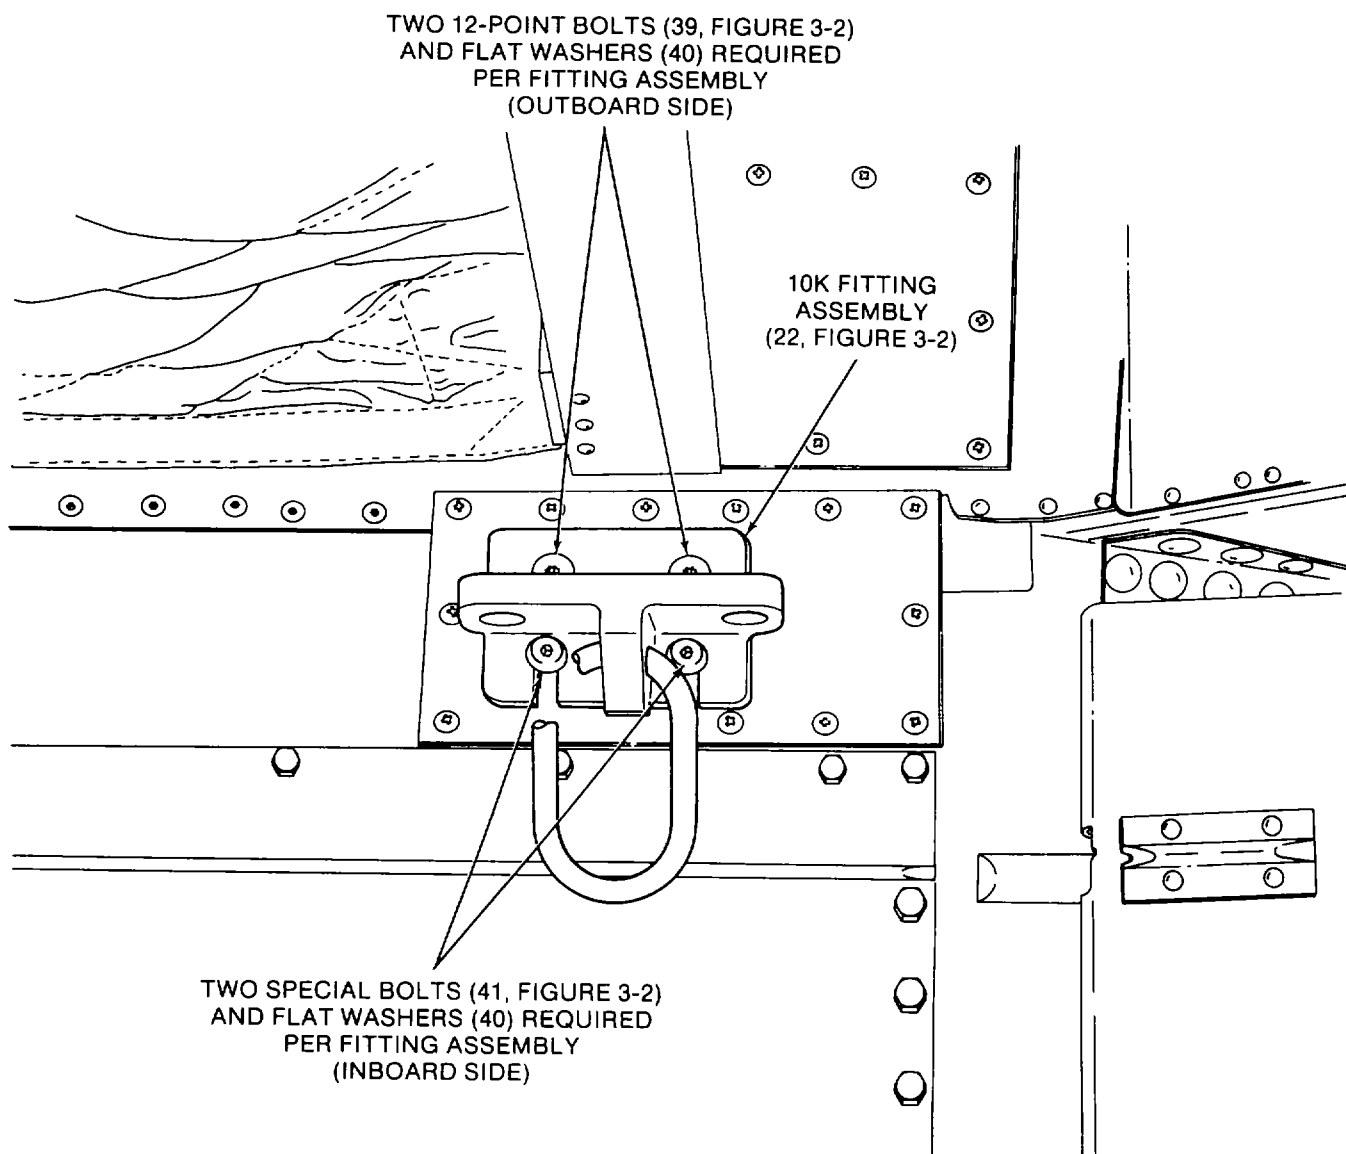

Figure 2-4. 10k Fitting Assembly Installed
- (1) A new cargo handling system has just been installed.
- (2) A cargo system has been removed from storage and installed.
- (3) A system has been idle in an out-of-service aircraft.
- (4) Maintenance has recently been performed and the system has not been inspected.
(5) A system appears to function improperly.
b. *Inspection Criteria.* A general inspection should be accomplished for any one of the reasons indicated in paragraph 2-4a. Inspect regularly to maintain the Helicopter Internal Cargo Handling System in good working condition. Make certain that all components shown in the table are accounted for in either the installed or stowed locations as applicable. (Refer to Table 2-1.) Then inspect the system against Figures 2-4 through 2-21 to make certain that all system components are properly installed. Check outboard rail/roller assemblies (1 through 6, Figure 3-2), inboard guide/roller assemblies (9 through 12), inboard ramp/roller assemblies (13 and 14), ramp guide rail/roller assemblies (7 and 8), and ramp extension roller assembly (15) for cracks or breaks. No cracks or breaks are allowed.
(5) Install eight 10k fitting assemblies (22, Figure 3-2) at the eight locations from which the 10k rings and screws were removed in Figure 2-3 and steps 2-8b.(2) through 2-8b.(4). Proceed as shown in Figure 2-4. Install inboard special bolts (41, Figure 3-2) and flat washers (40) finger tight. Slide 10k fitting assembly (22) into position (under the washers and bolts) through the open slots of the 10k fitting assembly. After 10k fitting assembly (22) is in place, insert 12-point bolts (39) and flat washers (40) and then tighten all four bolts.
(6) Install outboard rail/roller assemblies (1 through 6) according to the following steps. This procedure is typical for all outboard rail/roller assemblies.